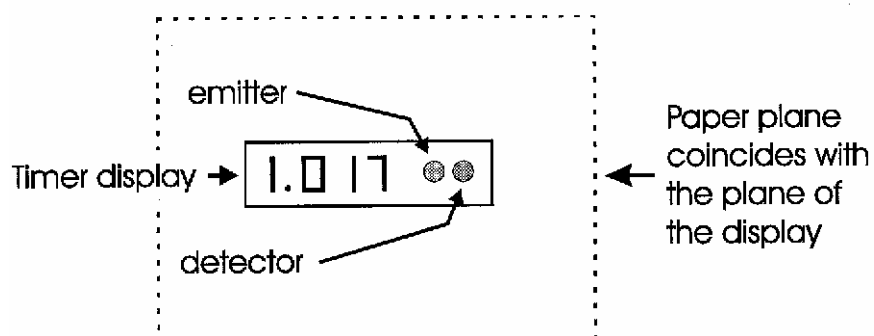

Figure 7. For use in section 3b. Indicate the whole area where the reflected light hits when the pendulum is vertical.
b) Consider the light source to be a point source, and the detector a simple photoelectric device. Make an illustration of how the light from the emitter is reflected by the mirror on the nut in the experimental setup (side view and top view). Figure 7 on page 10 shows a vertical plane through the timer display (front view). Indicate in this figure the whole region where the reflected light hits this plane when the pendulum is vertical.